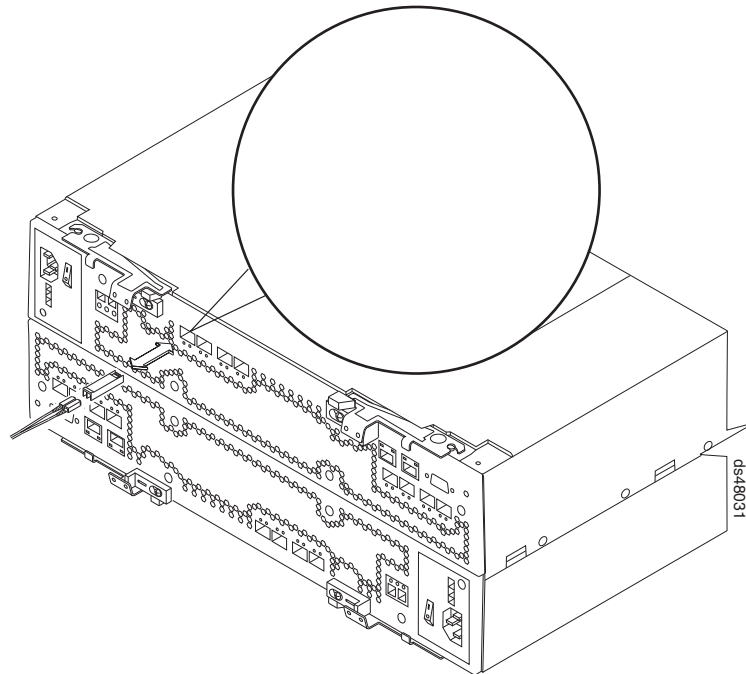

Figure 32. Installing an SFP module and LC-LC cable in a supported DS4000 storage subsystem
2. Connect an LC-LC fibre-optic cable into the SFP module, as shown in Figure 32 on page 53.
Note: Figure 32 on page 53 shows a DS4800 Storage Subsystem. The DS4800 Storage Subsystem is shown for illustrative purposes only.